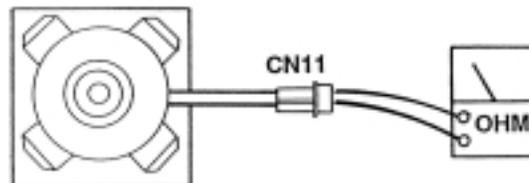

Figure 6-24. Motor Connector CN11
1. Using an ohmmeter R x 1 scale, measure the resistance between the two pins of CN11. See figure 6-24.